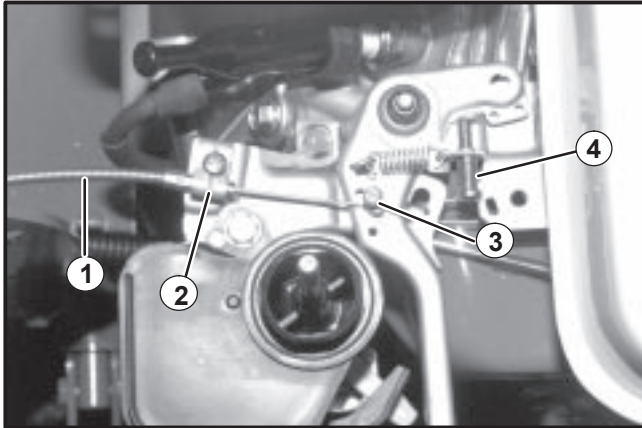

FIGURE 14
17. For Honda engines route throttle cable through throttle bracket as shown in Figure 14. The cable end shoulder should be positioned as shown against the end of the throttle bracket. Tighten down throttle bracket making sure not to overtighten.